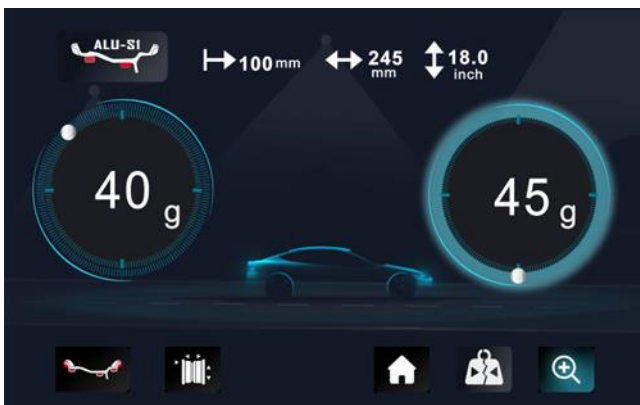

Fig. 10
4.3.3. Press  until the right LED fully lights up. Add weight on 6 o'clock position (Fig. 10).